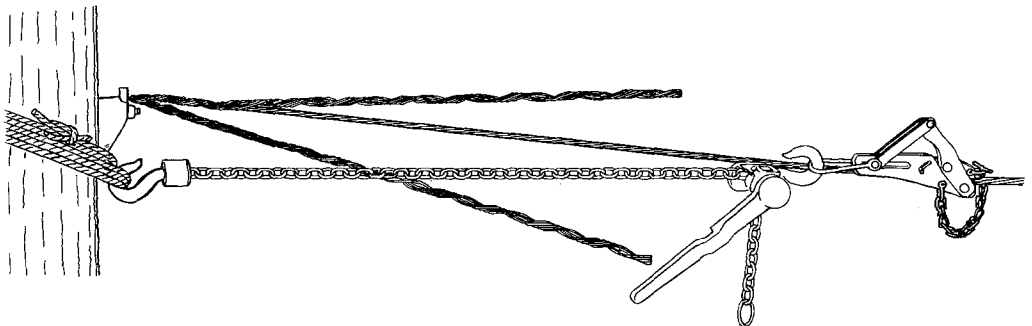

Fig. 6—Placing Strand Grip
- (c) Select the proper size strand grip for the strand being dead ended. Place the end of the strand inside the proper crossover mark on one leg of the strand grip. Align the loop of the strand grip with the outside edge of the dead-ending hardware. Simultaneously, pull the strand toward the pole to remove all possible slack. Fig. 6 illustrates the start of strand grip installation.